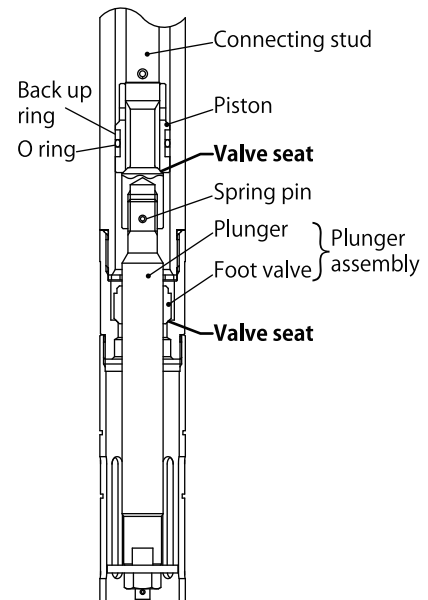

Fig. 6
- 5) Pull out the spring pin that connects between the connecting rod and the plunger, and take out the plunger. Wash the plunger and check it for blemish and wear. (Fig. 6)
- 6) The portions with which the lower part of the piston and the connecting stud come into contact form a seat surface. Check them for blemish. (Fig. 6)